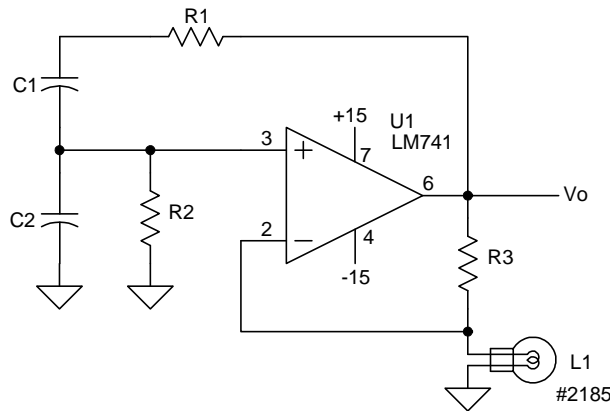

Figure 2: Wien Bridge Oscillator
- 2.1 Build the circuit in Figure 2. Use  $R1 = R2 = 4.7K$ ,  $C1 = C3 = 0.1 \mu F$ , and  $R3 = 390$  ohms – this value might have to be adjusted in step 2.2.